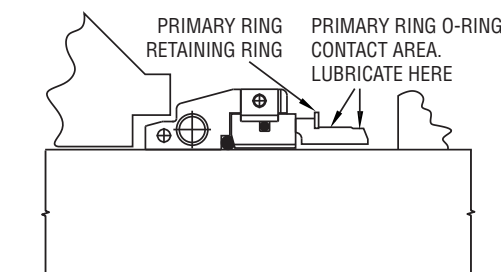

FIGURE 12
- Apply a light, even film of the o-ring lubricant to the o-ring contact area on the primary ring. See Figure 12.